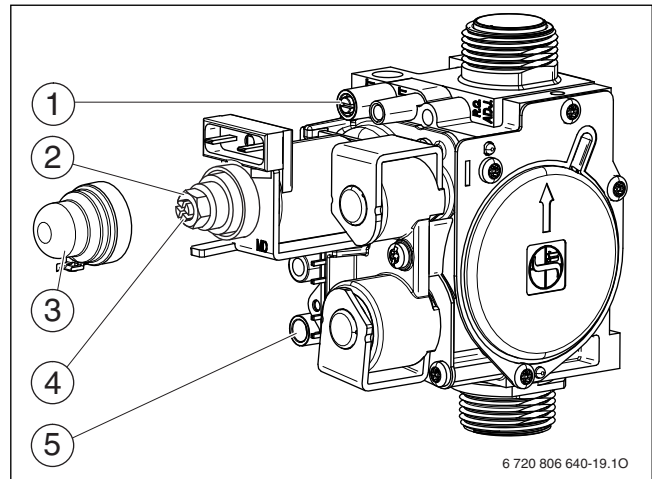

Fig. 24 Gas train
- ▶ Loosen the sealing screw at the test nipple for the nozzle pressure (→ Fig. 24, [1]) and connect the U-tube pressure gauge.
- ▶ Remove the cover (→ Fig. 24, [4]).
- ▶ For “max.” specified nozzle pressure (mbar). Use the setting screw to set the nozzle pressure for the max. gas volume (→ Fig. 24, [2]). Turn clockwise = more gas; turn anti-clockwise = less gas.
- ▶ For “min.” specified nozzle pressure (mbar). Use the setting screw to set the nozzle pressure for the min. gas volume (→ Fig. 24, [3]).
- ▶ Loosen the sealing screw at the test nipple for the gas supply pressure (→ Fig. 24, [5]) and connect the pressure gauge.